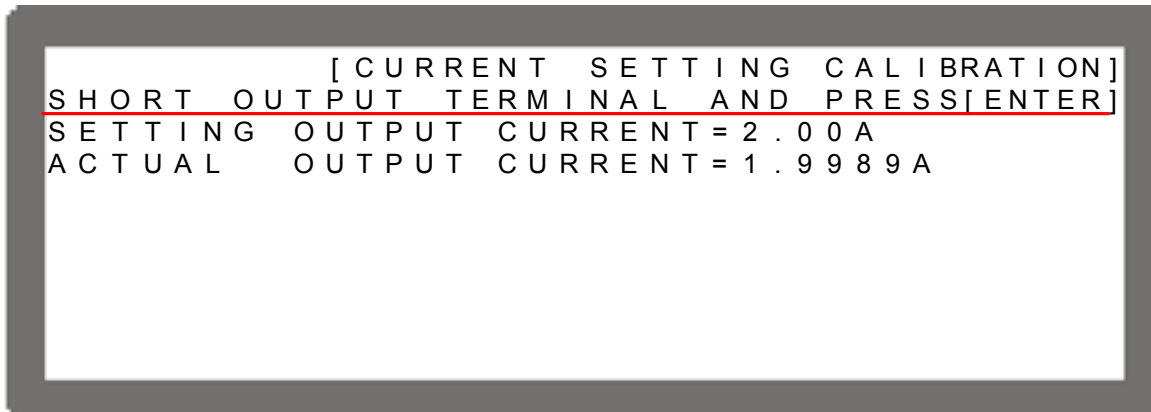

Figure 3-112
- (1) Set the Electronic Load to CV mode 5V. Short the output terminal directly if there is no Electronic Load.
- (2) In CALIBRATION page, press “**3**” or turn “Rotary” (⊙) knob to set CHOICE=3.
- (3) Press “**ENTER**” to confirm and entering into current calibration options as Figure 3-112 shows.